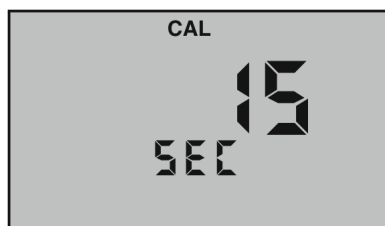

Figure 25
4. Press  to initiate. **“CAL”** will be displayed along with **“15 SEC”** or current Auto oFF value (see Figure 25, pg. 44).